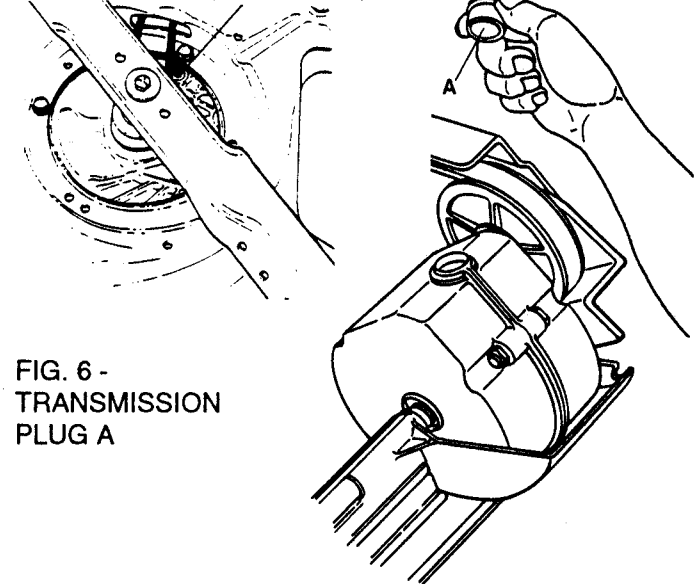

FIG. 6 -
• **TRANSMISSION (on the self-propelled models):** The transmission is filled with 4 ounces of **SNAPPER "00"** grease at the factory and under normal usage, will not require additional grease. It is recommended that plug (A) be removed after every 25 hours of operation, and a visual determination of the lubrication condition of the transmission be made. If grease IS NOT visible on the INPUT GEAR (the small gear below the plug opening), add a small amount of **SNAPPER "00"** grease. Reinstall the plug (A) after servicing the transmission. Refer to FIG. 6.